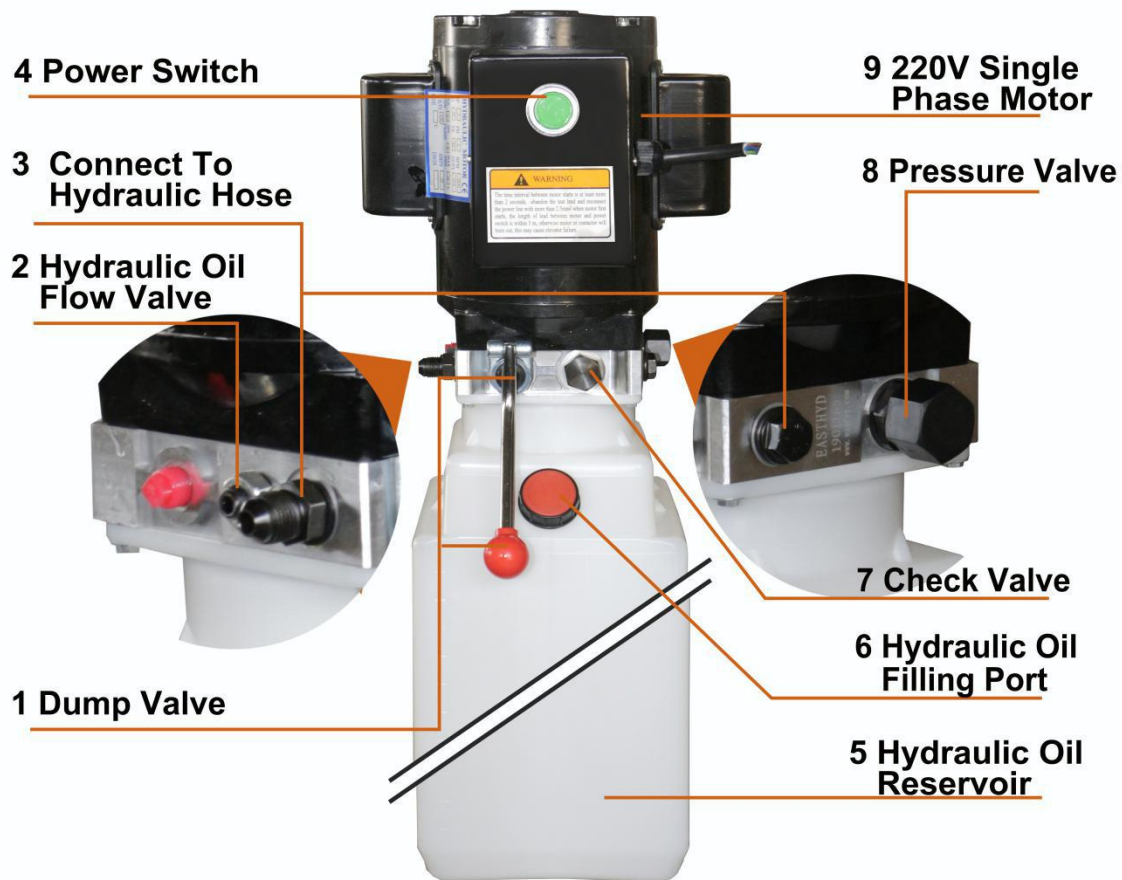

Fig 20 Power Unit Diagram
4. Power unit testing (Fig 20)